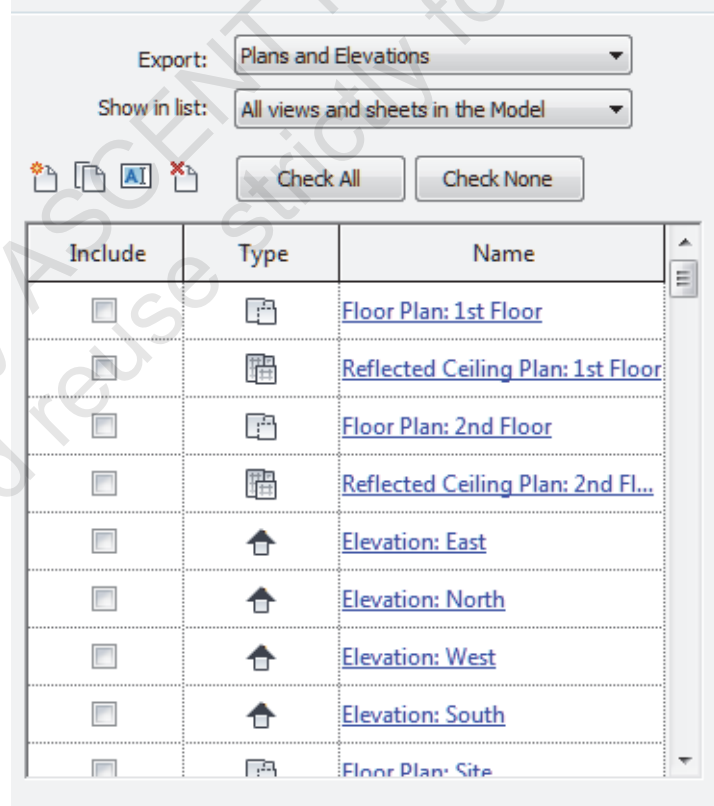

Figure 1–81
4. The tab displays with the new set active and additional information, as shown in Figure 1–81.